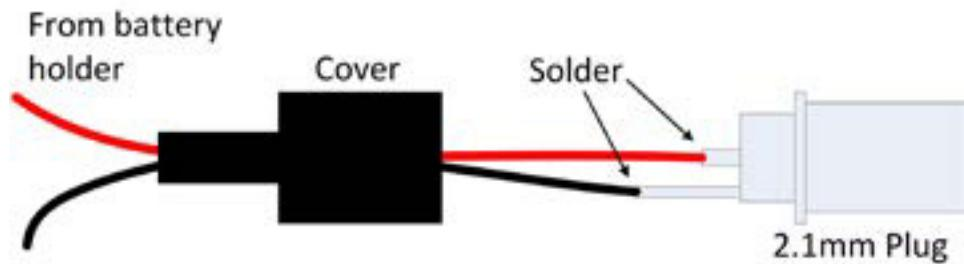

Figure 15-6. Power plug wiring
5. Solder the power plug that comes with the battery holder to the holder's red and black wires. The red wire is soldered to the center pin and the black to the outside pin, as shown in Figure 15-6.